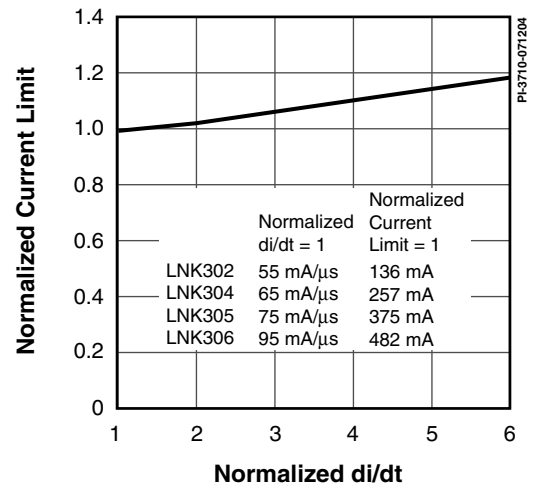

Figure 13. Current Limit vs. di/dt .
- E. For current limit at other di/dt values, refer to Figure 13.